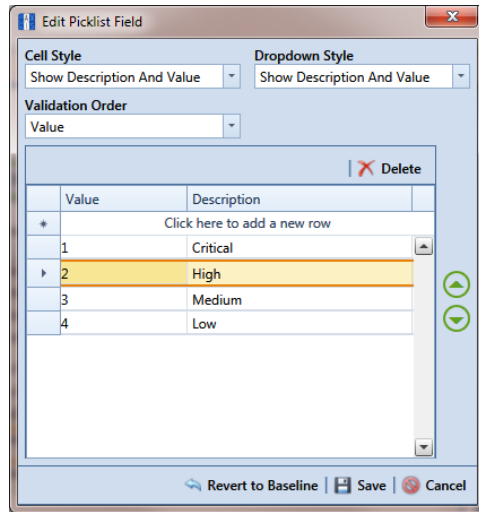

Figure 3-47. Edit Picklist Field
- 6 Click the edit icon  again for the data entry field converted earlier to a *Standard Picklist* to open the *Edit Picklist Field* dialog box (Figure 3-47).
- a Click the message *Click here to add new row* to add an empty row of fields for data entry (Figure 3-47, page 93).